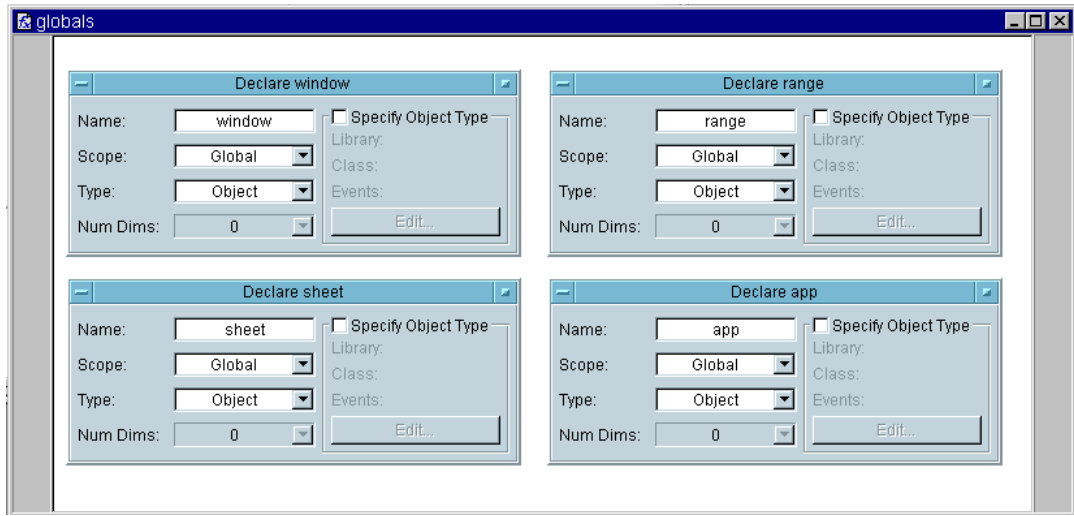

Figure 154 The Globals UserFunction
- 4 Clone this object three times, and rename the other objects as follows: `app`, `range`, and `window`. Size and move the `globals` UserFunction below `Main`. It should look like Figure 154.
- 5 After you have compared the entries to Figure 154, iconize the four objects.